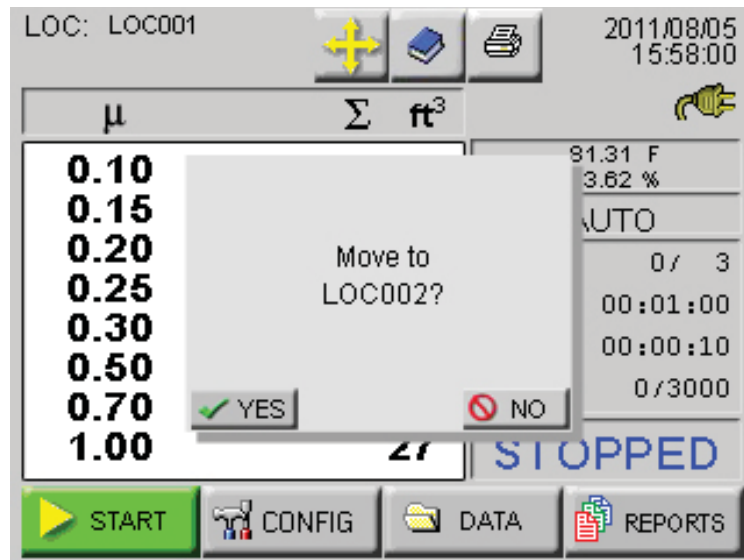

Figure 6-79 Auto Increment Prompt
- The user is prompted to move to the next location after the programmed number of cycle. See Figure 6-79.